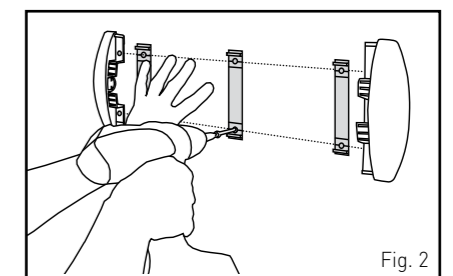

Fig. 2
- Place the aluminium brackets over the centrelines. Place the first aluminium bracket approximately 20 mm from the end piece (or angle piece) and then space the brackets at intervals of no more than 750 mm. Check that they are perpendicular to the floor and then mark their pre-drilled hole positions onto the wall. Drill into the wall, fit the plugs and then fix all the aluminium brackets onto the wall (see Fig. 2).